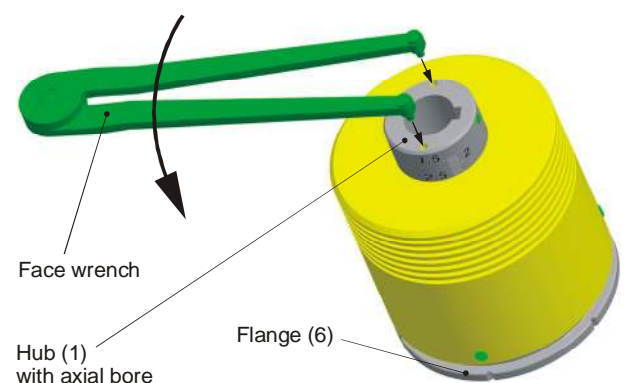

Fig. 7
- 1) Turn three socket screws (9) back until the set collar (3) can be turned.
- 3) Hold the flange (6) on the knurl and turn the set collar (3) by hand, either up to the maximum step width according to Tables 3 and 4, or until the required torque is reached.
- 4) If necessary, finely adjust the set collar (3) until the marking grooves on the flange (6) align axially with the socket screws (9).
- 5) Tighten the three socket screws (9) by hand.
- 6) After each step-wise adjustment, the hub (1) must be turned about two turns (= 720° angle of rotation) relative to the flange (6), so that the hysteresis material (4) is remagnetised.
In order to do this, please hold the flange (6) to prevent it from turning and turn the hub (1) with an adjustable face wrench (not included in delivery). The face wrench is inserted into the hub (1) axial bores (see Fig. 7).